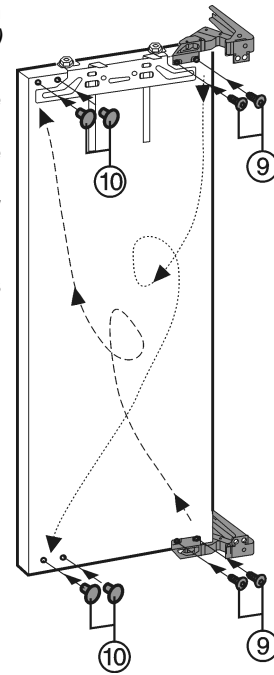

Fig. 4
- ▶ Unscrew Fig. 4 (9) the hinges from the door, transfer them and **screw them on tightly (4 Nm)**.
- ▶ Close vacated fastening holes with stoppers Fig. 4 (10).